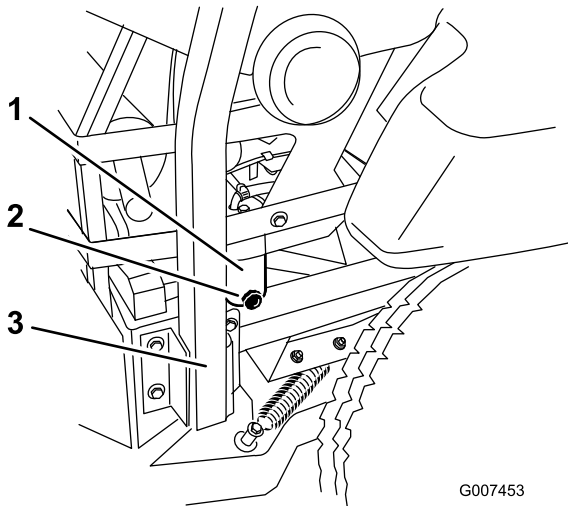

Figure 10
6. Open the drain valve on the water separator approximately one turn to allow water and other contaminants to drain (Figure 10).
7. Close the drain valve when only diesel fuel comes out (Figure 10).